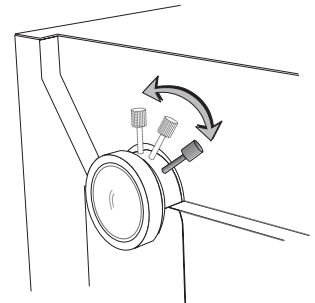

Figure 14.
- (g) Grasping the lock screw, slide it to the left and right until the desired focus is achieved. (Figure 14.)